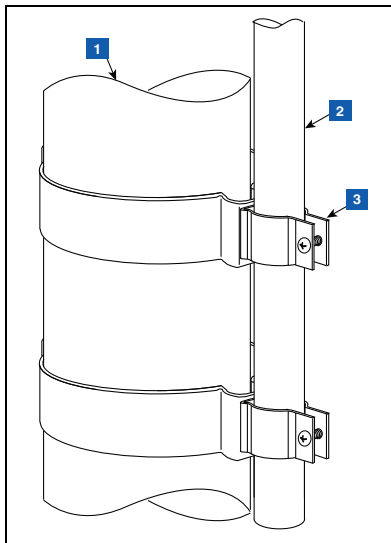

Figure 14. Attaching 12.7mm Conduit to 12.7mm Clamps on Riser
2. Attach 12.7 mm (1/2") conduit to the 12.7 mm (1/2") metal clamps as shown in Figure 14 and tighten. The clamp bolts are integral to the clamps and do not require retention nuts.
LEGEND FOR NUMBERED BOXES IN Figure 14